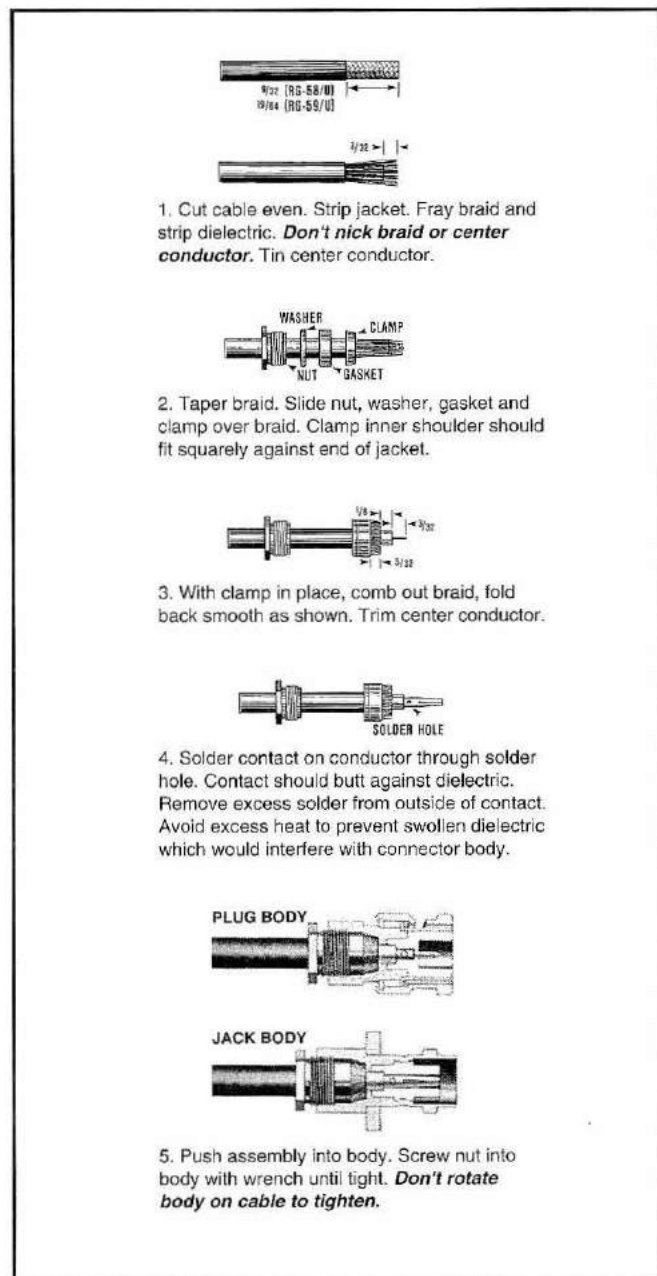

Fig 1-44—Installing a BNC connector in five steps.
**A** Sure. They say a picture is worth a thousand words. Enjoy. See Fig 1-44.